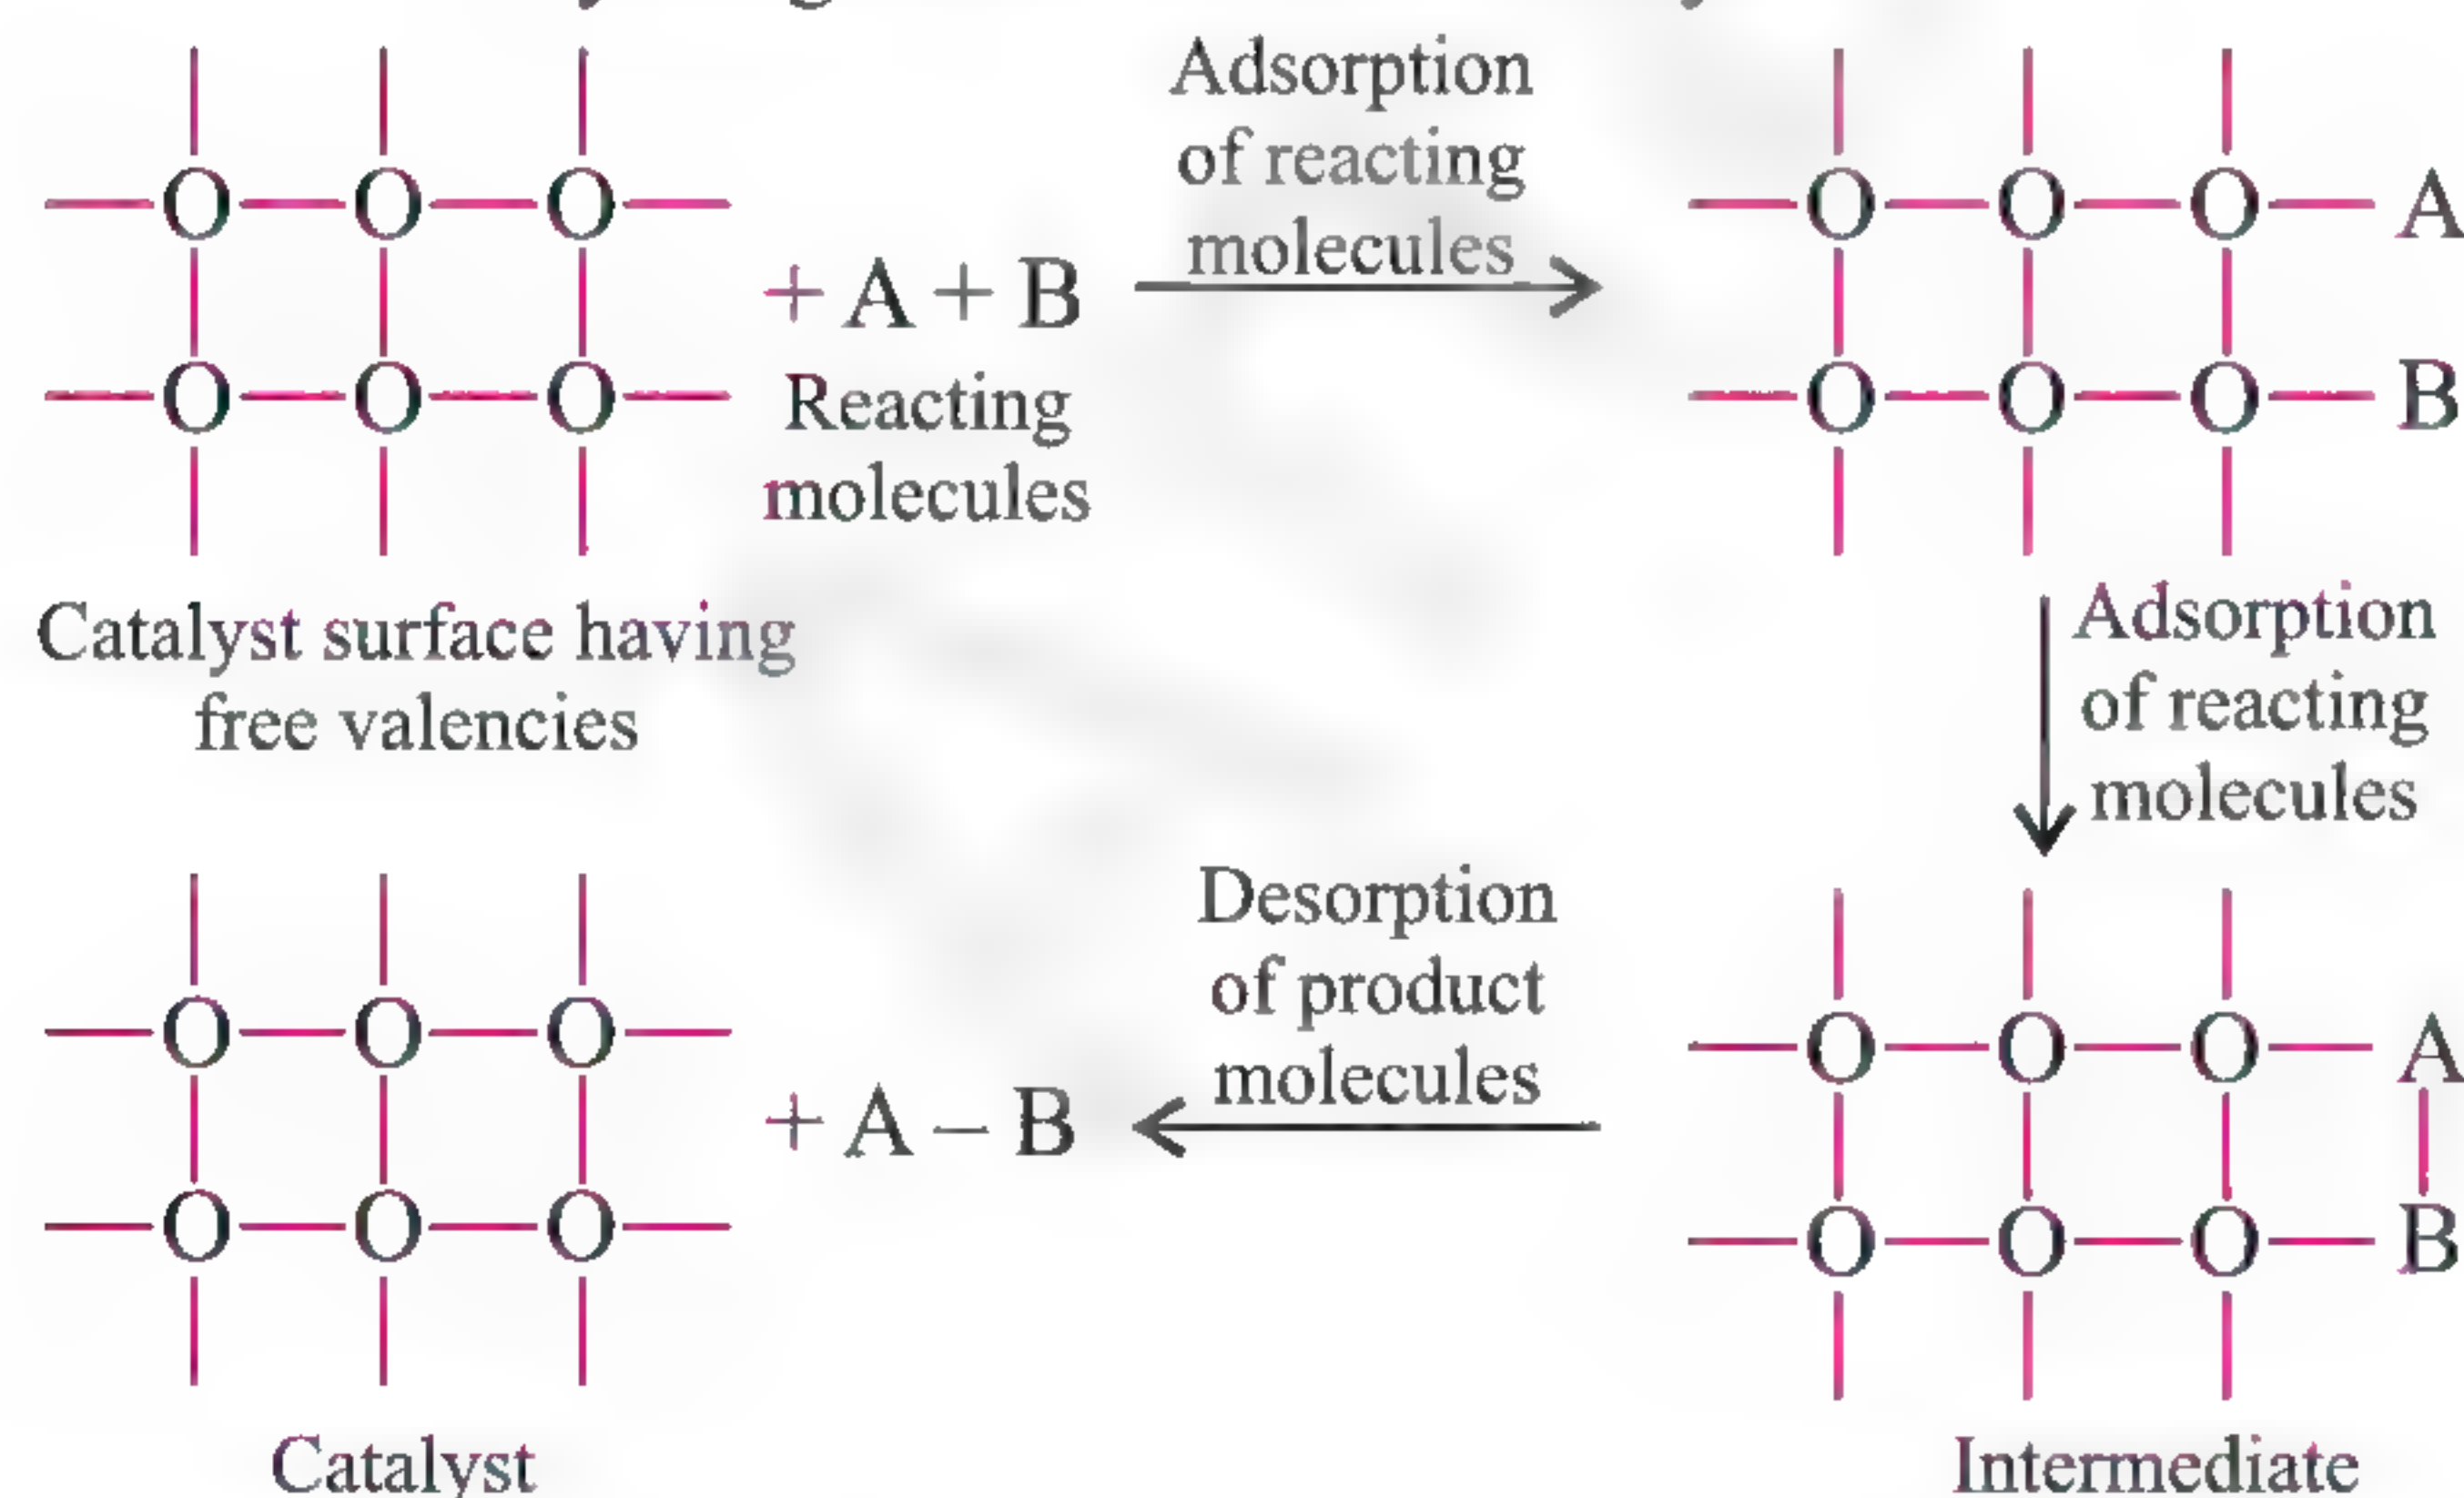

Fig. 5.12 Adsorption of reacting molecules, formation of intermediate, and desorption of products
- iii. Occurrence of chemical reaction on the catalyst's surface through the formation of an intermediate (Fig. 5.12)